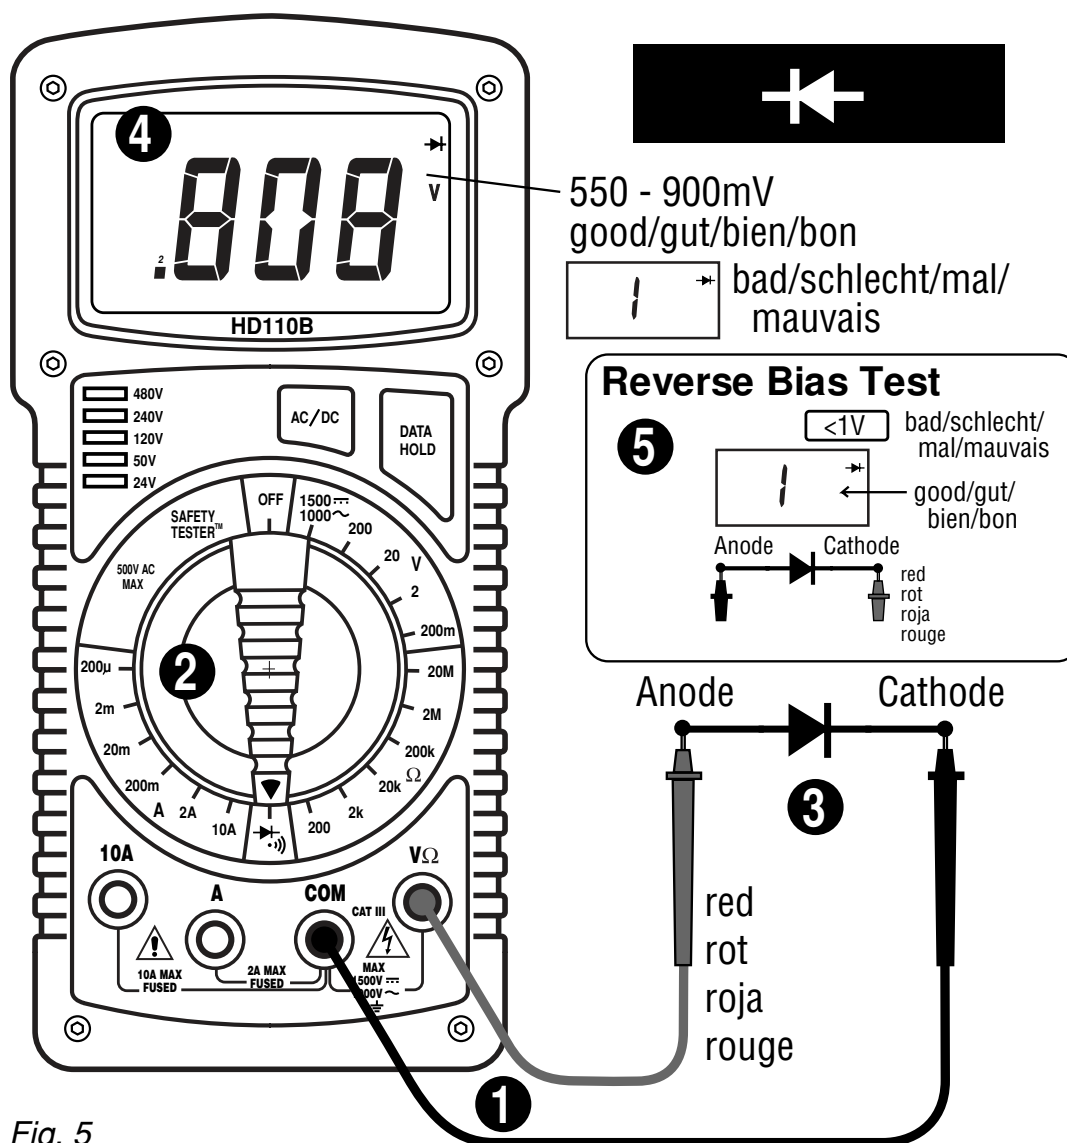

Fig. 5
## DIODE AND CONTINUITY TEST (See Fig. 5)
The diode test measures the voltage drop across a diode junction. ❶ Connect the test leads as shown in figure 5. ❷ Set the Function/range switch to  $\rightarrow \text{+} \rightarrow$ . ❸ Apply probe tip of red lead to the anode and of black lead to the cathode of the diode. ❹ The meter's display indicates the forward voltage drop (approx. 0.6V for silicon diode or 0.4V for germanium diode). An open diode is indicated by "1". ❺ Reverse test lead connections to the
### **D • Dioden- und Transistortest (Siehe Fig. 5)**
### **E • Comprobación de diodos y transistores (vea fig. 5)**
### **F • Test de Diodes et de Transistors (voir fig. 5)**